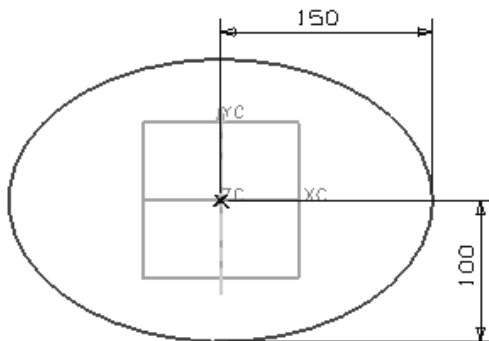

Figure 11-105 The sketch for the guide string
1. Draw an ellipse on the XC-YC plane as per the dimensions shown in Figure 11-105 and exit the **Sketcher** environment.